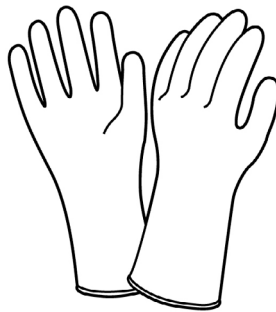

Figure 20. Chemical Protective Gloves.
**Chemical Protective (CP) Glove Set (TM 10-8400-205-23&P).** The components of the packaged set consists of an outer rubber glove (Figure 20), to provide the chemical protection, and an inner glove to assist in absorption of perspiration. The outer, five-finger gloves (right and left hands) are of an impermeable, unsupported, black butyl rubber.